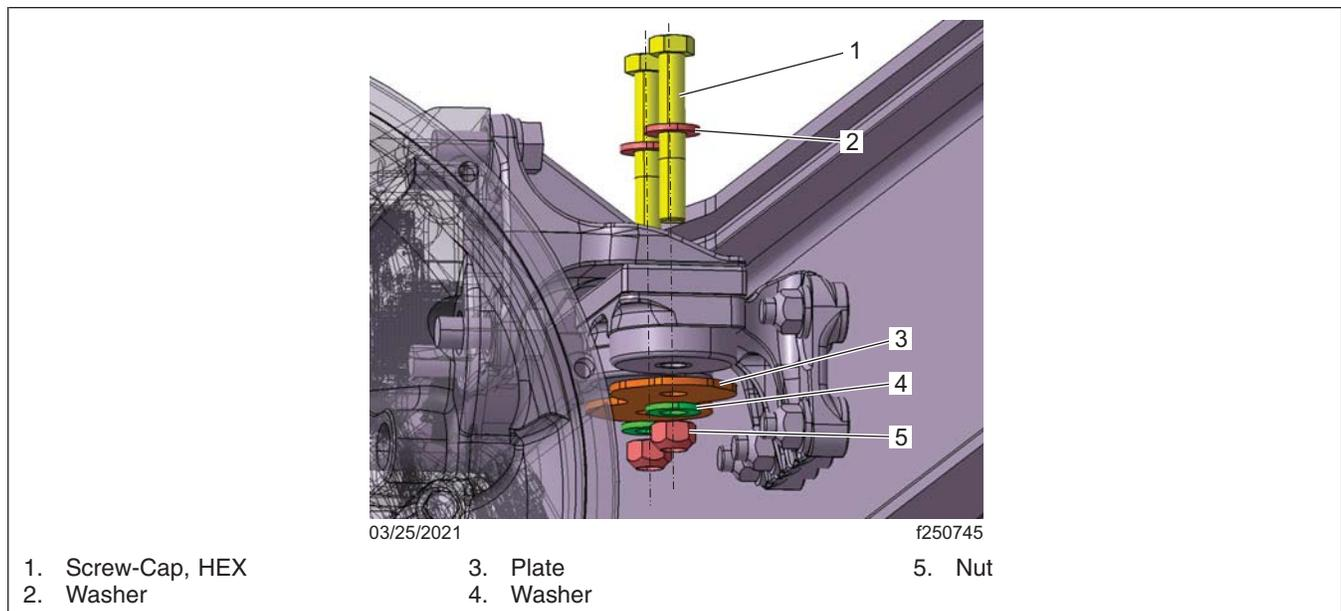

Fig. 5, Nodal Rear Engine Supports
5. Lower the back of the engine and install the isolator bolts. Torque to 203 lbf-ft (275 N-m), alternating between the front and rear bolts, to prevent binding. See Fig. 5.